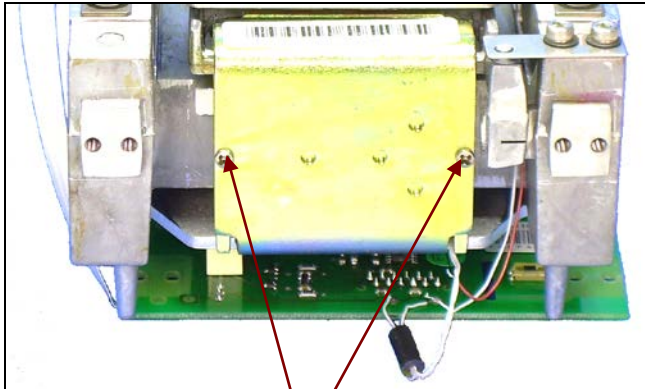

Figure 3-55. Two screws secure Magnet Half.
16. Remove the two screws from the Magnet Half. (See Figure 3-55.) Pull the Magnet Half away from the Ratio Coil. (Pull hard to overcome magnetic force and any possible corrosion.)